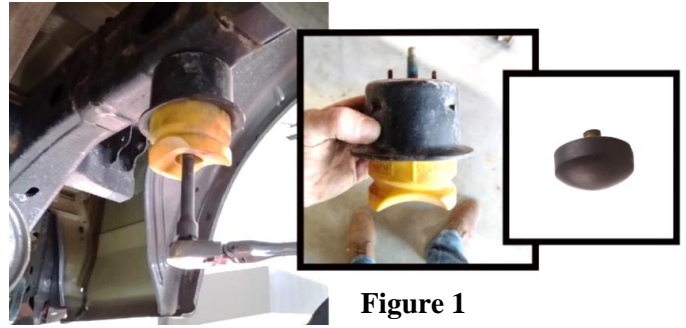

Figure 1
- 5) Remove the factory bump stop using a 13mm socket and thread the included QA1 bump stop into the factory bump stop hole. **(Figure 1)**